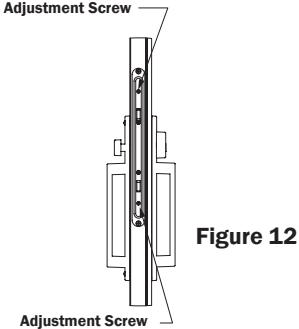

Figure 12
14. The screws in the lock can be adjusted (Figure 12) to make the panels lock tighter or looser. Each hook adjusts individually.